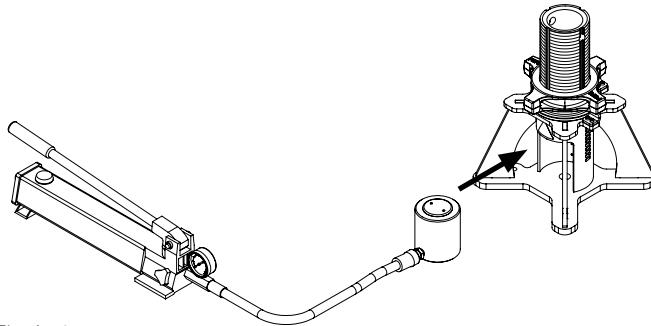

Fig. A5.05
- The pump valve is closed' (Fig. A5.05)